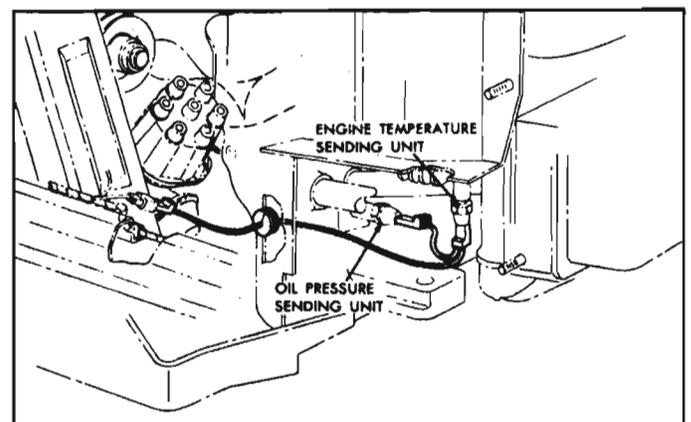

Fig. 8-117—Oil Pressure and Cylinder Head Temperature Senders
- Oil pressure is low, or cylinder head temperature is high. First check oil level and apparent operating temperature of engine. If light is still on, remove the pressure sender (fig. 8-117) and check oil pressure with a reliable pressure gauge. If engine has cooled, and light remains on, temperature sender unit is defective.